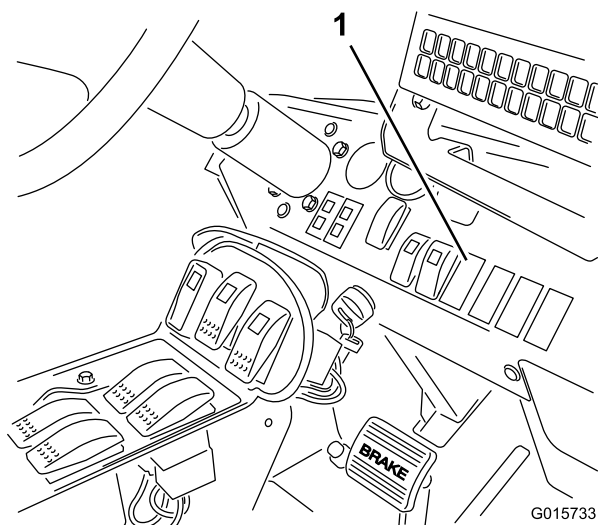

Figure 21
2. Remove the switch plug on the dashboard in the location shown in Figure 21.